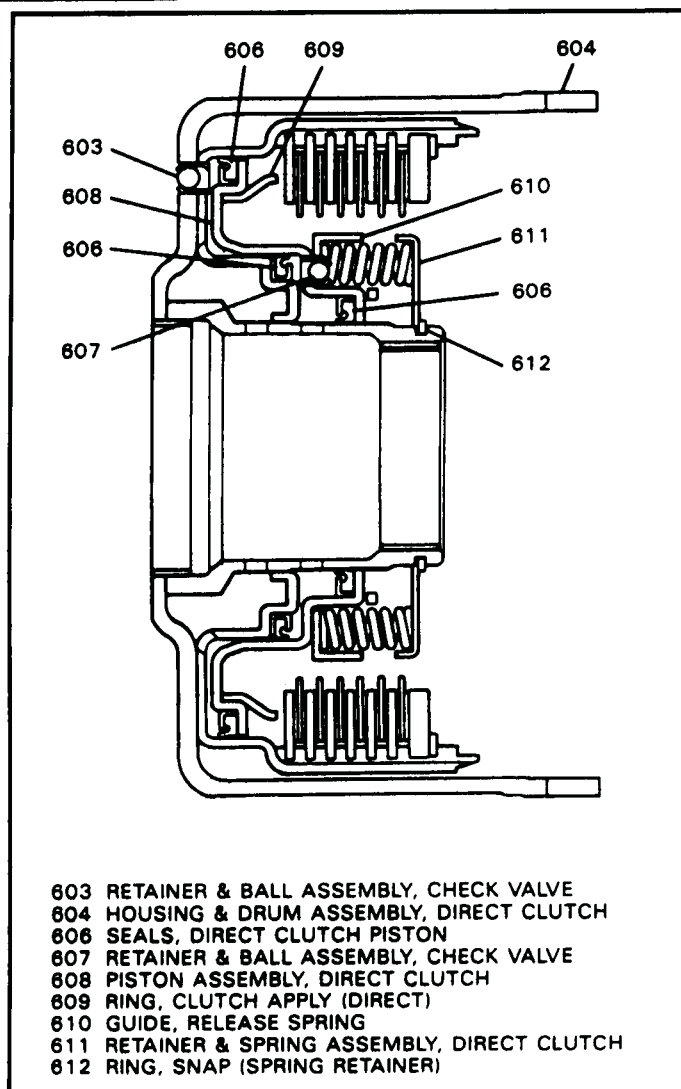

Figure 88
3. Install new inner and outer lip seals on piston with the lips facing away from the apply ring side, as shown in Figure 88, and lubricate with small amount of "Trans-Jel".
4. Install the center lip seal into the direct clutch housing groove with the lip facing up as shown in Figure 88, and lubricate with "Trans-Jel".
15. Install the direct clutch plates beginning with a steel plate and alternating with lined plates, as shown in Figures 88 and 89.
17. Install the backing plate snap ring as shown in Figures 88 and 89.